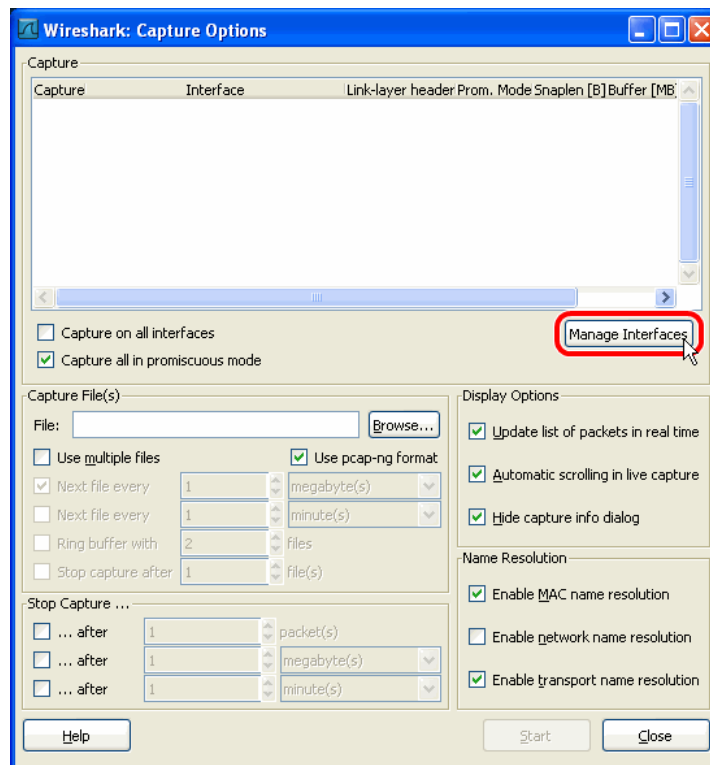

Figure 163: Wireshark Capture Options Dialog.
1. Open Wireshark and choose the menu **Capture → Options...**. This opens the **Capture Options** dialog as shown in Figure 163.